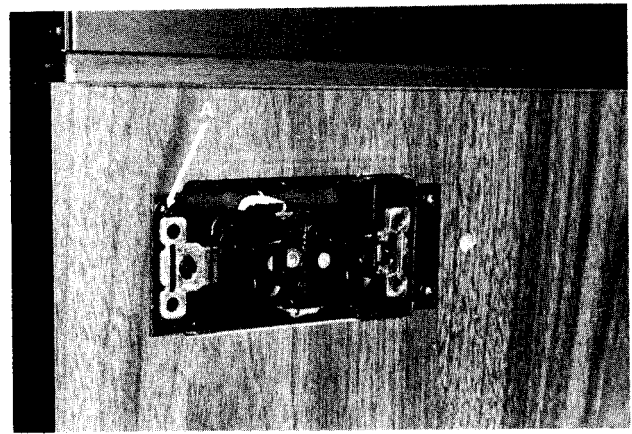

Fig. 9
- 8) Remove receptacle housing by removing (4) screws, Item A, Fig. 9.